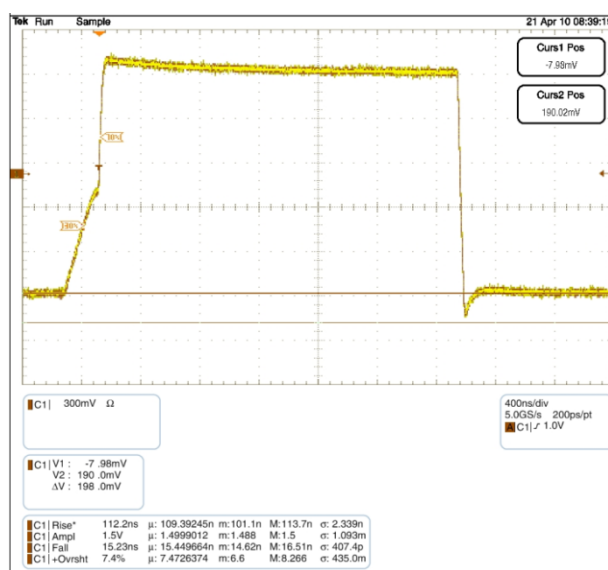

Figure 5. FXMA2102 Waveform C: 600 pF, R_{PU}: 2.2 K
Due to I²C's open-drain topology, I²C masters and slaves are not push/pull drivers. Logic LOWs are “pulled down” (I_{sink}), while logic HIGHs are “let go” (3–state). For example, when the master lets go of SCL (SCL always comes from the master), the rise time of SCL is largely determined by the RC time constant, where $R = R_{PU}$ and $C =$ the bus capacitance. If the FXMA2102 is attached to the master [on the A port] in this example, and there is a slave on the B port, the Npassgates act as a low resistive short between both ports until either of the port's $V_{CC}/2$ thresholds are reached. After the RC time constant has reached the $V_{CC}/2$ threshold of either port, the port's edge detector triggers both dynamic drivers to drive their respective ports in the LOW-to-HIGH (LH) direction, accelerating the rising edge. The resulting rise time resembles the scope shot in Figure 5. Effectively, two
The FXMA2102 dynamic drivers have enough current sourcing capability to drive a 400 pF capacitive bus. This is beneficial for instances when an I²C buffer / repeater is required. The I²C specification stipulates a maximum bus capacitance of 400 pF. If an I²C segment exceeds 400 pF, an I²C buffer / repeater is required to split the segment into two segments, each of which is less than 400 pF. Figure 5 is a scope shot of an FXMA2102 driving a lumped load of 600 pF. Notice the (30% – 70%) rise time is only 112 ns ($R_{PU} = 2.2$ K). This is well below the maximum edge rate of 300 ns. Not only does the FXMA2102 drive 400 pF, but it also provides excellent headroom below the I²C specification maximum edge rate of 300 ns.